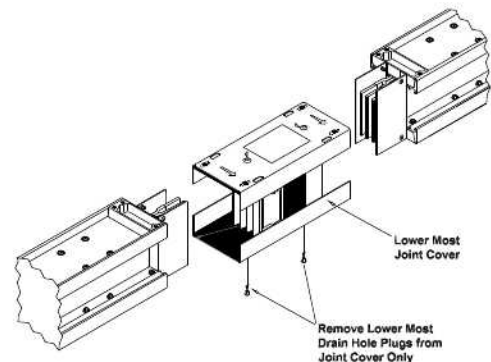

Figure 17. Drain Holes in Edge Joint
9.2.2.3 Edge Joints - Remove the two (2) drain hole plugs from the lower most joint cover only. See Figure 17.